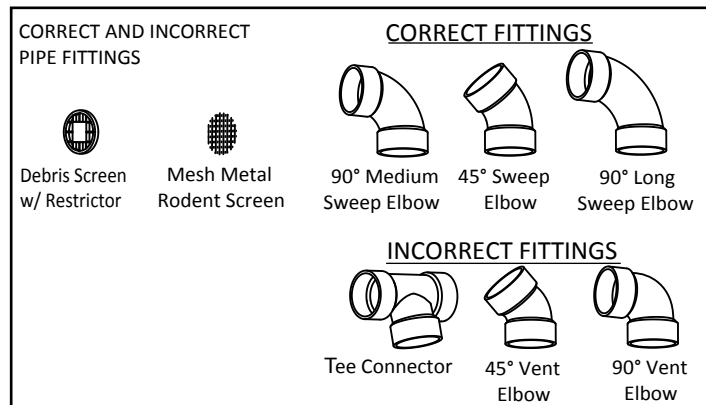

Figure 8 - Correct and Incorrect Pipe Fittings
3. Maximum of 6 elbows may be used. Use only medium or long sweep elbows. See figure 8 for details.
DO NOT use vent elbows in this vent pipe installation. See "Incorrect Fittings" in Figure 8, p. 11.
3. If the total length of vent pipe is less than 20 feet, it is recommended that you install the debris screen with restrictor (provided). See Figure 8, p. 11.